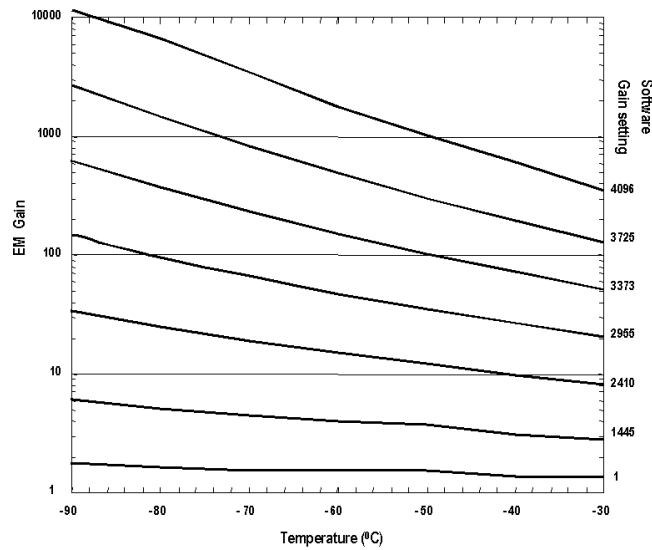

Figure 2 - A family of curves showing how EM Gain changes with Temperature for different software gain settings.
- **Temperature dependence:** Figure 2 shows how the EM gain varies with temperature, this dependence arising primarily from phonon scattering. The scattering causes a loss of energy, which increases with temperature. To make up this loss and maintain EM gain, a larger EM electric field (EM voltage) must be used at higher temperatures.